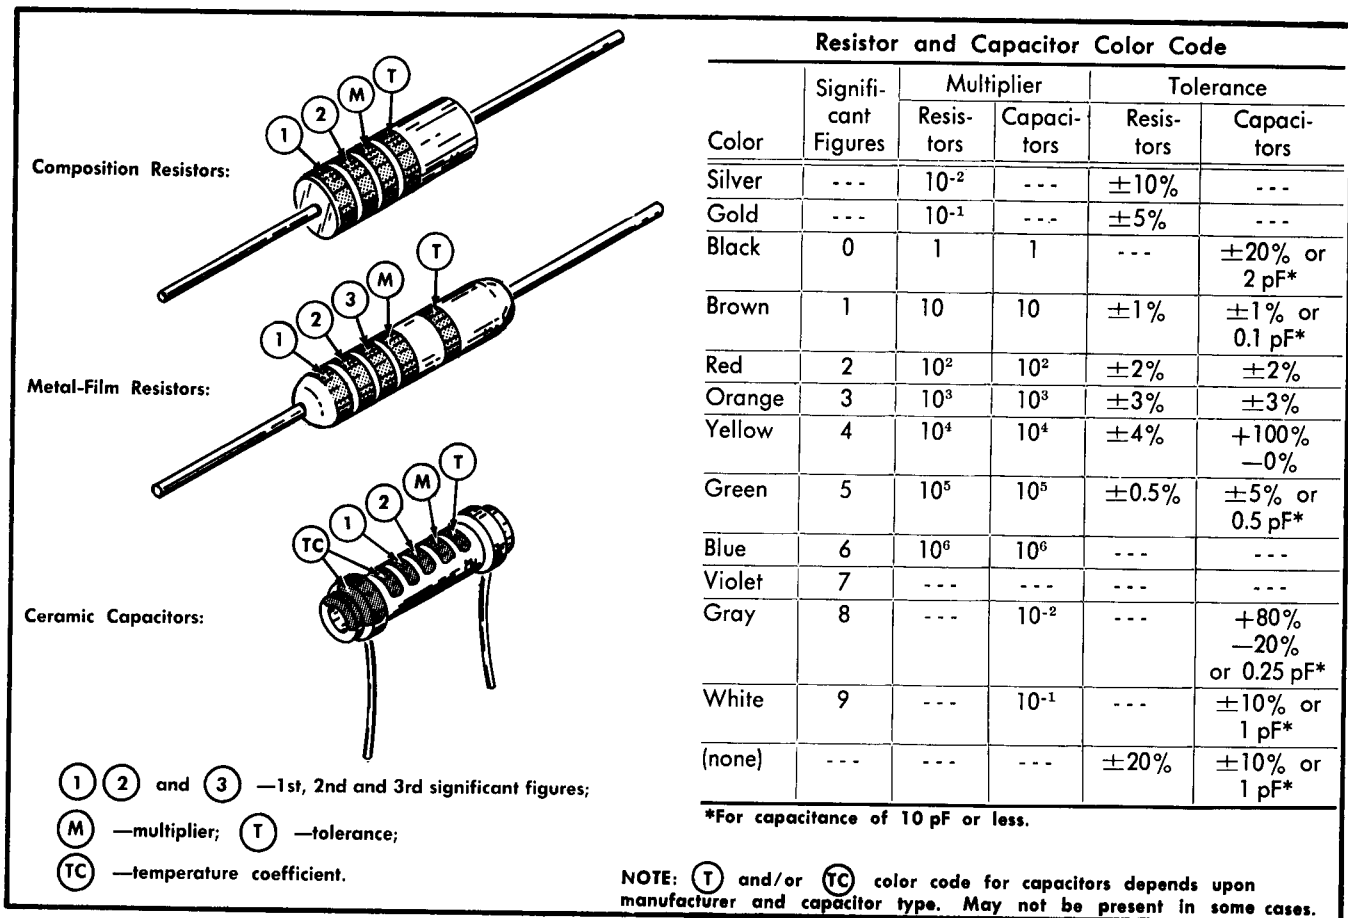

Fig. 4-1. Color-code for resistors and ceramic capacitors.
the body) with EIA color-code. The color is read starting with the stripe nearest the end of the resistor. Composition resistors have four stripes which consist of two significant figures, a multiplier and a tolerance value (see Fig. 4-1). Metal-film resistors have five stripes consisting of three significant figures, a multiplier and a tolerance value.
**Capacitor Marking.** The capacitance values of common disc capacitors and small electrolytics are marked in microfarads on the side of the component body. The white ceramic capacitors used in the Type 11B1 are color-coded in picofarads using a modified EIA code (see Fig. 4-1).